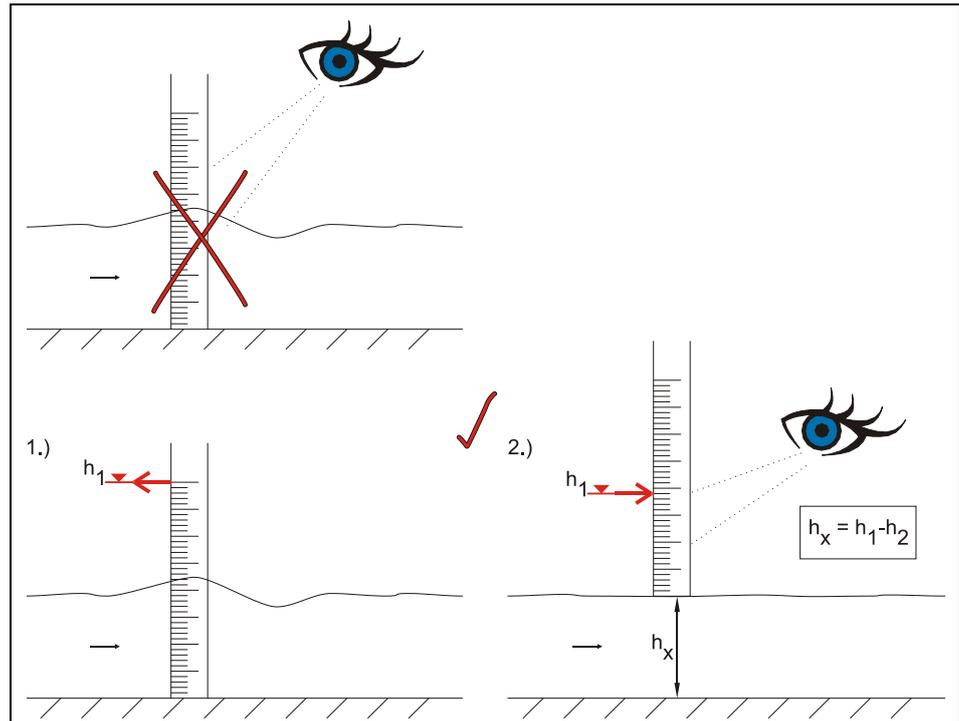

Fig. 12-1 Determination of reference level under operating conditions
- measure the filling level in the channel with a yardstick (see Fig. 12-1)